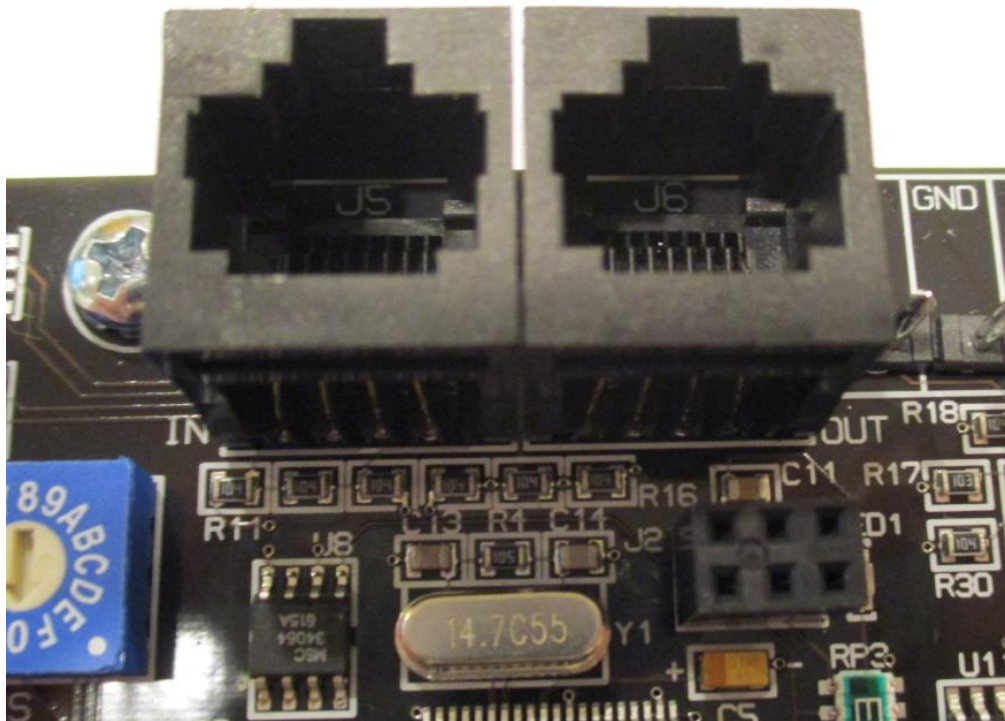

Figure 2 Data Line IN (J5)/OUT (J6) Connection
- Terminate to the Local Port on the LightLEEDer lighting controller and the IN port on the LS DMX module (J5) as shown in Figure 2. Note: Data line can be run to the next LightSync device from the OUT port (J6).